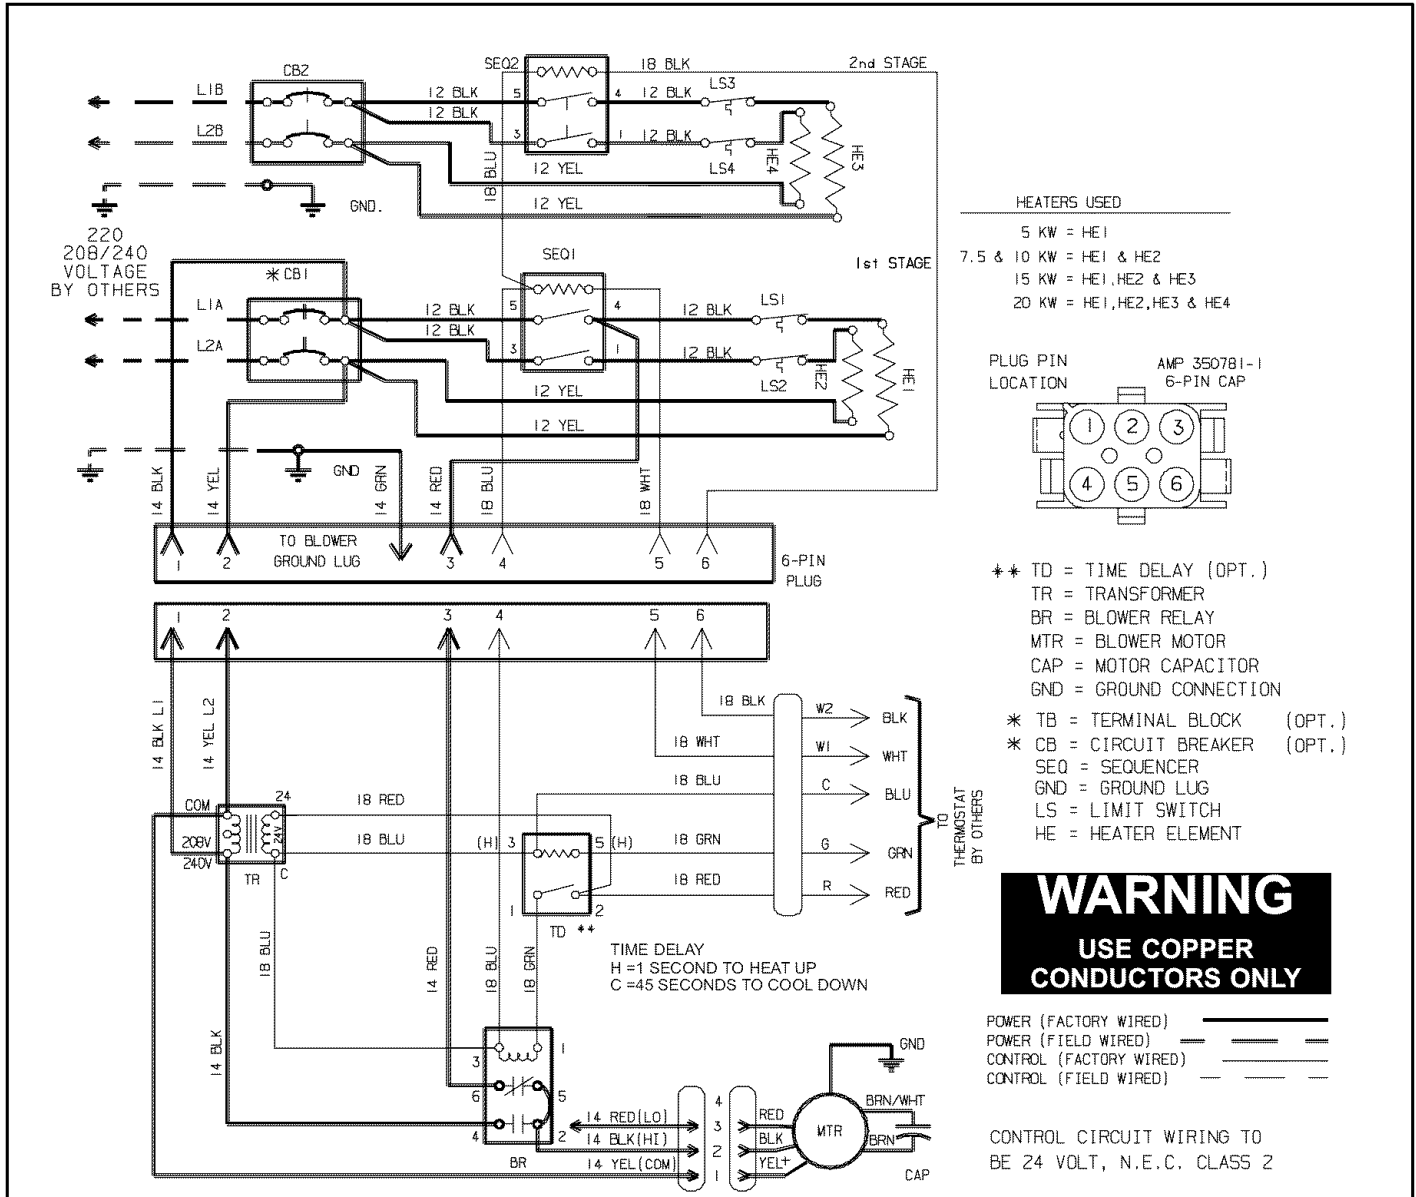
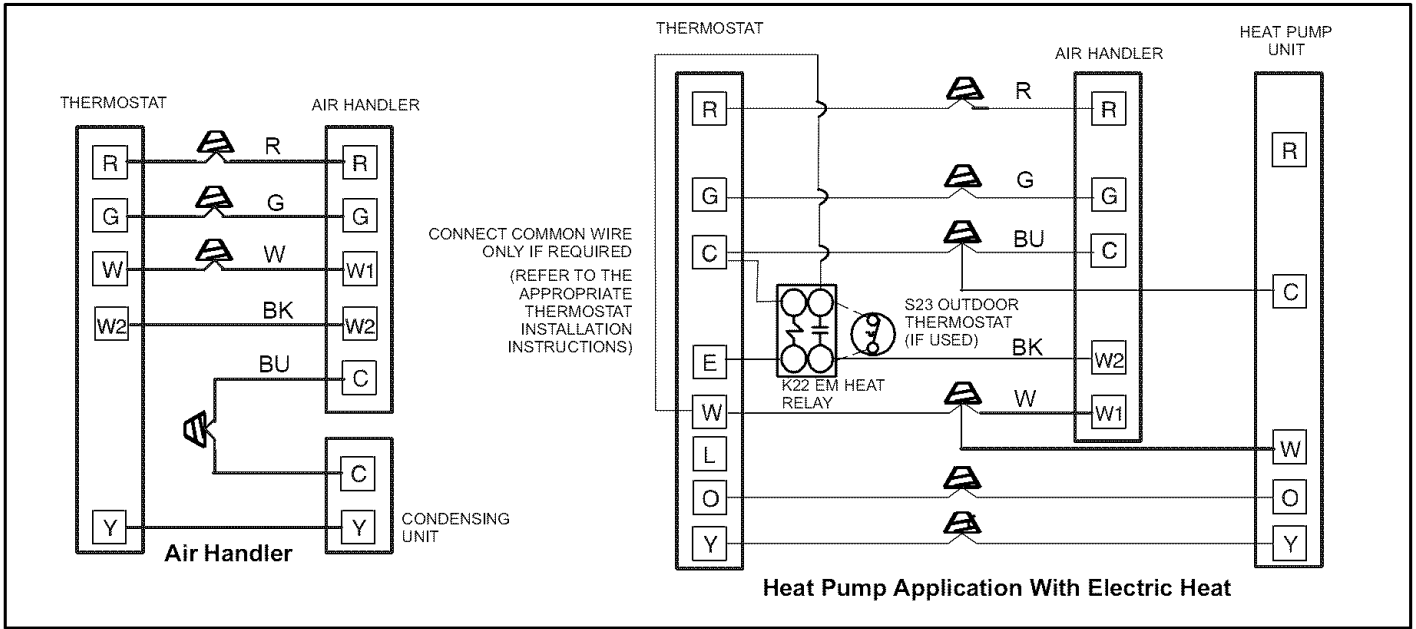

Figure 5. Field Wiring Diagram - Electric Heat and Air Handler
Figure 6. Low Voltage Field Wiring Electric Heat
Refer to figure 6 for typical low voltage field wiring for air handler/condensing unit and heat pump applications. Figure 5 is a diagram of the air handler connections and the heater elements high-voltage wiring.
3. For applications using a two-stage room thermostat and/or an outdoor thermostat, connect wiring as shown in figure 6.